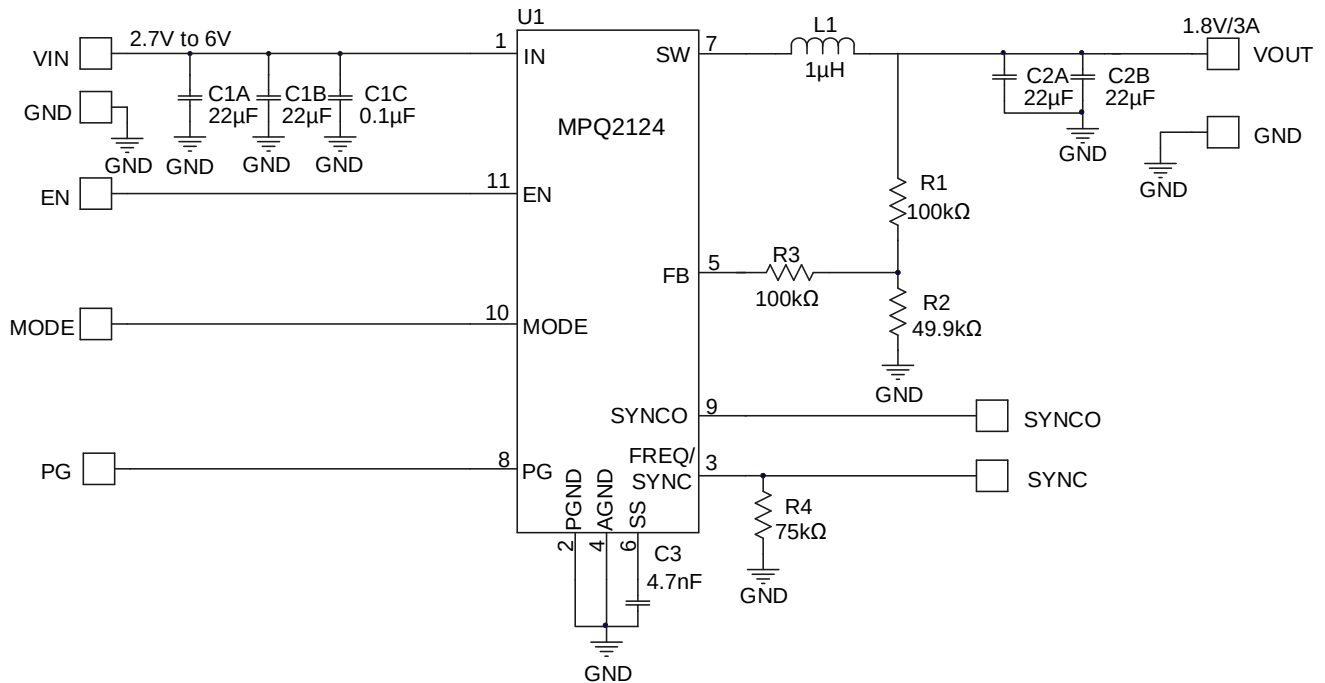

Figure 5: $V_{OUT} = 1.8V$, $I_{OUT} = 3A$ Application Circuit
- 7) The recommended PCB layout is based on the Typical Application Circuit section on page 24 (see Figure 5).